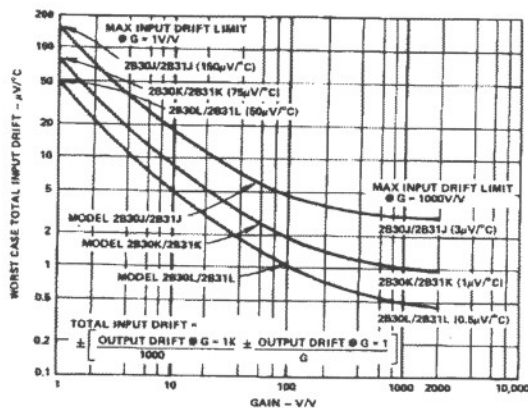

Figure 10. Total Input Offset Drift (Worst Case) vs. Gain
**Input Offset Voltage Drift:** Models 2B30/2B31 are available in three drift selections:  $\pm 0.5$ ,  $\pm 1$  and  $\pm 3 \mu V/^\circ C$  (max, RTI,  $G = 1000V/V$ ). Total input drift is composed of two sources (input and output stage drifts) and is gain dependent. Figure 10 is a graph of the worst case total voltage offset drift vs. gain for all versions.